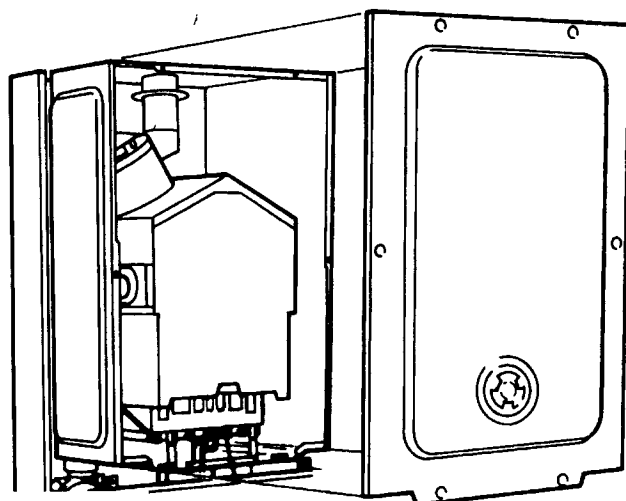

Fig. 24
8.5 ROOM SEALED CHAMBER FRONT COVER (including viewing window) 14/48 SE Part No 5957 20/70 SE Part No 7822 Refer to fig. 24
8.5.2 Remove roomsealed front cover plate by releasing six screws (fig. 24) and easing cover off. The screws are not captive. inspect gasket for damage. If damaged, replace.